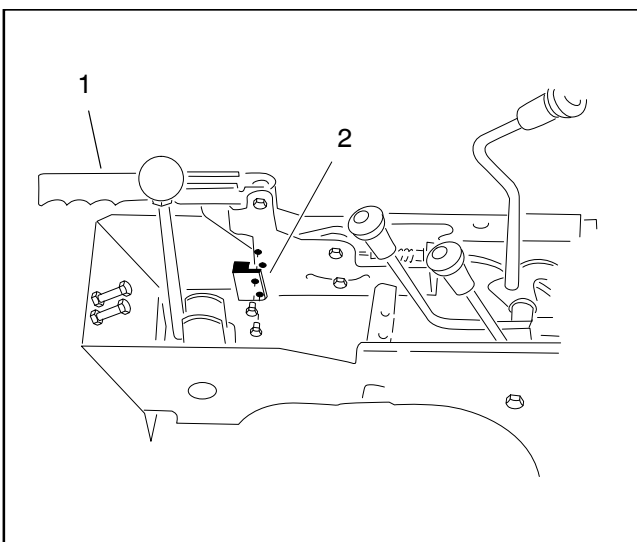

Figure 46
1. Park vehicle on a level surface, shut engine off, remove key from ignition switch and chock wheels. Locate the interlock switch (Fig. 46).